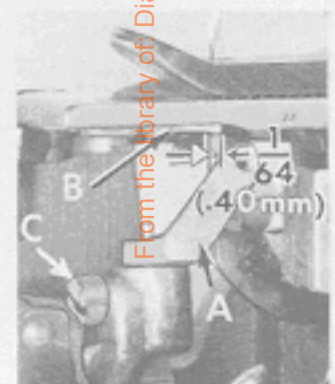

Fig. 9
The looper and loop retainer are set correctly when the following conditions prevail: (1) Turn the handwheel in the operating direction until the looper (A, Fig. 9) moving to the right and the left corner of the recess is under the prong of the loop retainer (B). At this point the prong should project $\frac{1}{64}$ inch (.40 mm) over the looper, from back to front (Fig. 9). If this